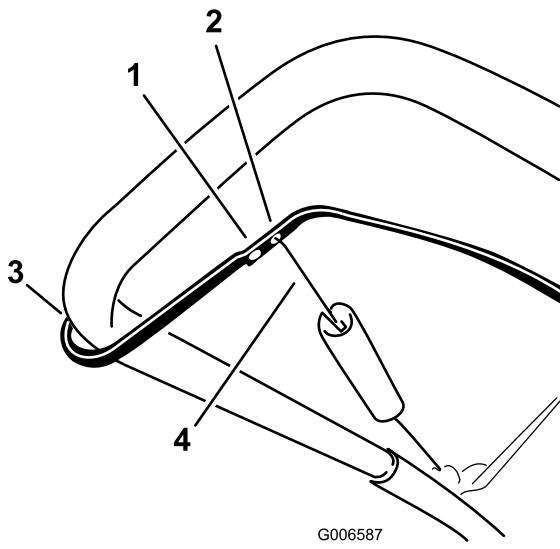

Figure 22
**Note:** After extended use, the drive belt may wear and lose its proper belt tension. If the drive belt slips (continuously squeals) under a heavy load, disconnect the spring from the adjuster link and move the upper end of the spring to the hole that is further from the pivot point in the control bar (Figure 22). Then connect the spring to the adjuster link and adjust the control cable.